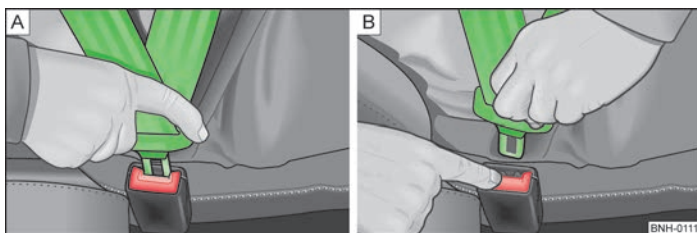

Fig. 113 Fastening/unfastening the seat belt
- Insert the lock tongue into the belt buckle » Fig. 113 - [A] that is part of the seat until it clicks into place.
- Press the red button in the belt buckle » Fig. 113 - [B], the lock tongue pops out.